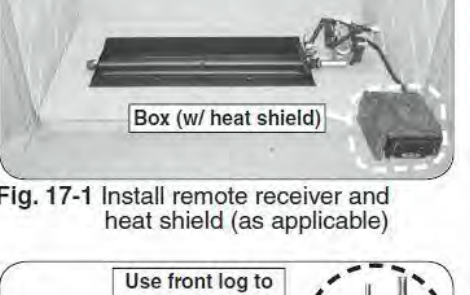
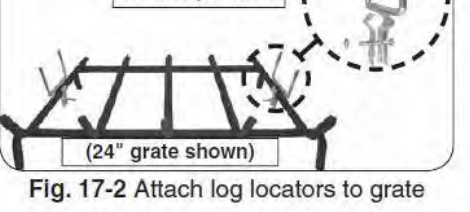
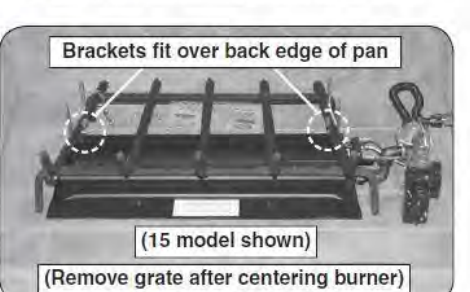

Fig. 17-2 Attach log locators to grate
Fig. 17-3 Position grate
Fig. 17-4 Grate placement detail
1. Locate the grate (outside of the fireplace) and attach the log locators to the 2 outer bars of the grate using the provided screws and nuts (see Fig. 17-2 and Fig. 17-4).
The log locators should be loosely positioned toward the middle of the outer bars and oriented as shown in Fig. 17-2. Temporarily place the front log at the front of the grate, to correctly determine the log locator position. Slide the log locators up against the rear of the front log. Tighten the log locators in place. Remove the front log.
2. Position the grate over the burner pan (in fireplace) so the log locator brackets fit over the back edge of the pan to lock it in position. Ensure the assembly is centered from left to right. See Fig. 17-3 and Fig. 17-4.